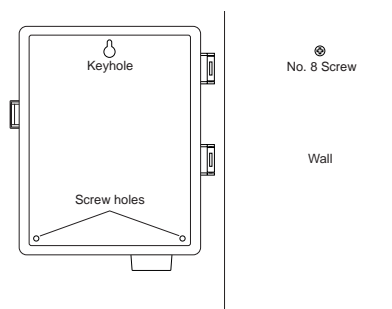

FIGURE 16: Mounting of an Indoor Timer
- Screw a No. 8 screw through each of the two holes at the bottom of the box into the wall [See Figure 16].